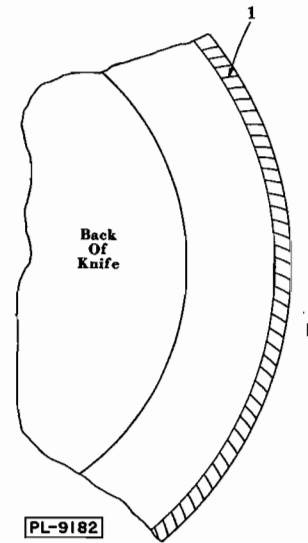

Fig. 6
- l. Check to make sure that the characteristic grind marks (1, Fig. 6) are plainly visible on the ground surface, if not the grinding wheel is not cutting. (Many operators try to sharpen a knife with a grease-loaded stone which will not cut).